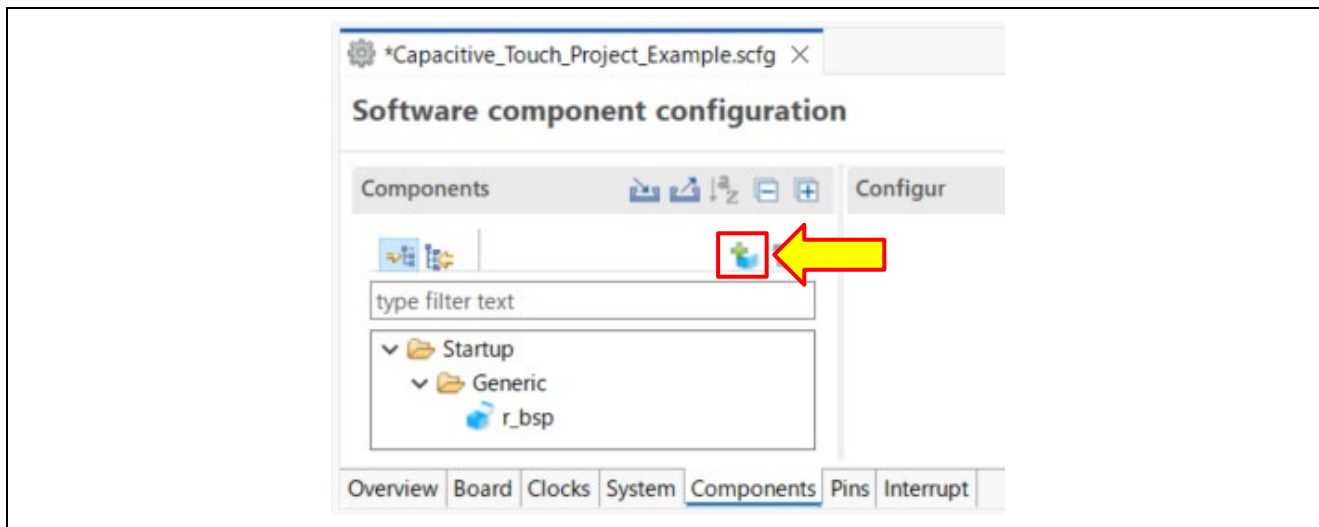

Figure 7-2 Add Components (2)
1. Click the “Add component” button (marked with red square in Figure 7-2).